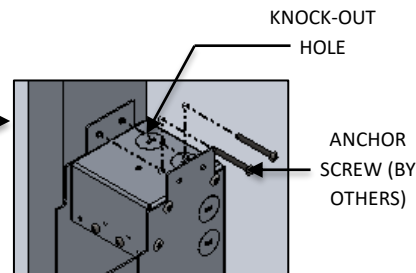

FIG. 14 - DETAIL SHOWING KNOCK-OUT HOLE AND SCREWS
5. Remove the appropriate knock out for desired wire entrance location as shown in FIG. 14.